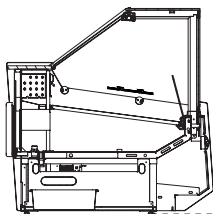

Fig.2 Removing the wooden platform
- Unpack the device and remove the wooden platform from the basis (does not concern moving devices) Fig.2